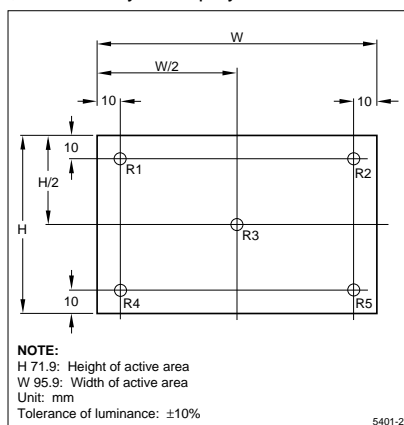

Figure 2. Luminance Test Method
1. Average luminance measured at the dots in circular windows (R1 to R5) is shown in Figure 2. (Circular window diameter: $\phi 13\text{ mm}$).
where L_{MAX} is the maximum luminance and L_{MIN} is the minimum luminance taken at the five locations shown in Figure 2.